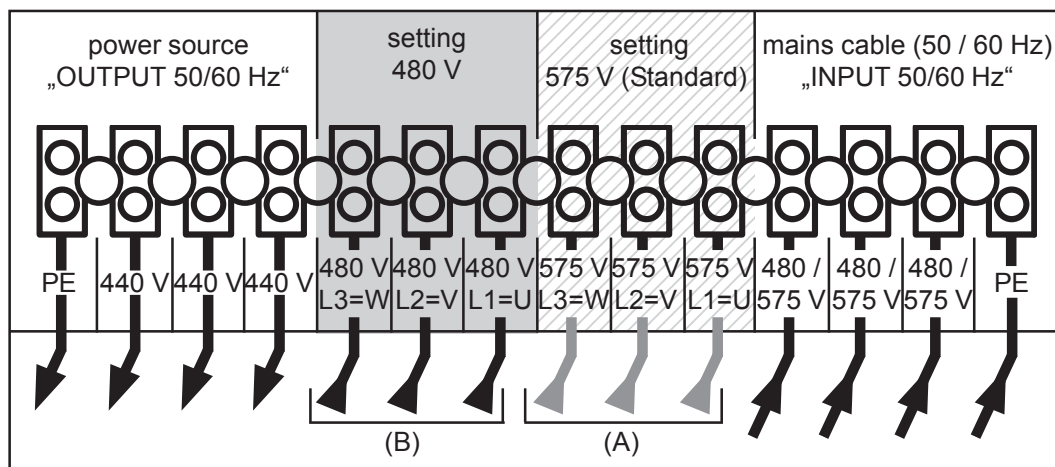

Fig.11 Reconnect autotransformer for 480 V
4. Disconnect the phase conductors (L1, L2, L3) from the terminal rail, at the connections „setting 575 V (Standard)” (A) (Fig.11)
5. Connect phase conductors (L1, L2, L3) to the connections “setting 480 V” (B) (Fig.11)